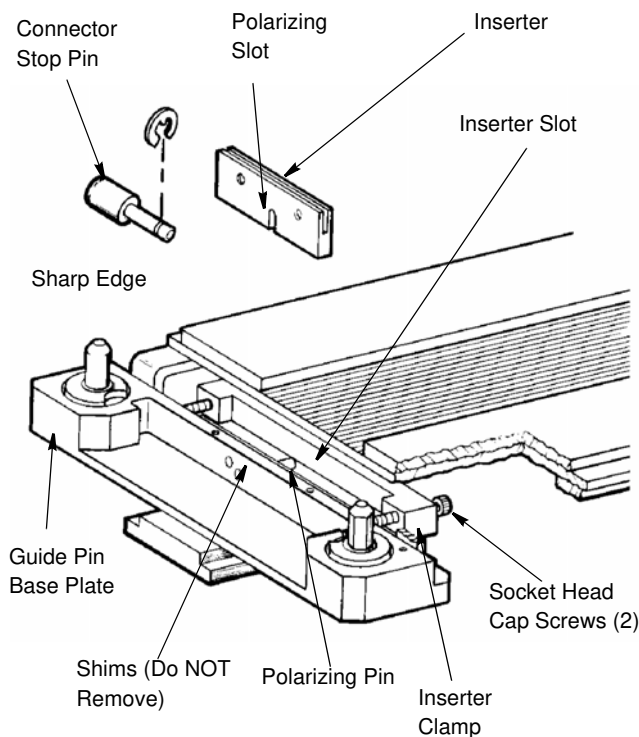

Figure 6
1. Loosen the two socket head cap screws securing inserter clamp to lower tooling. Lift inserter straight out of tooling; do NOT remove shims when changing the inserter. See Figure 6.
2. Align inserter, supplied with conversion kit, with slot between guide base plate and inserter clamp. Make sure polarizing slot is aligned with polarizing pin, and sharp edge of inserter is towards guide pin base plate. See Figure 6.